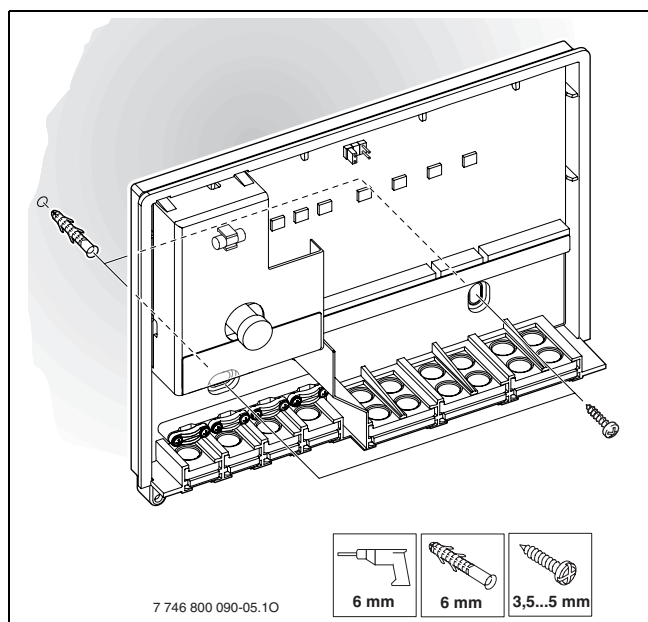

Fig. 9 Inserting rawl plugs
- Drill 6 mm Ø holes and insert rawl plugs (→ fig. 9).